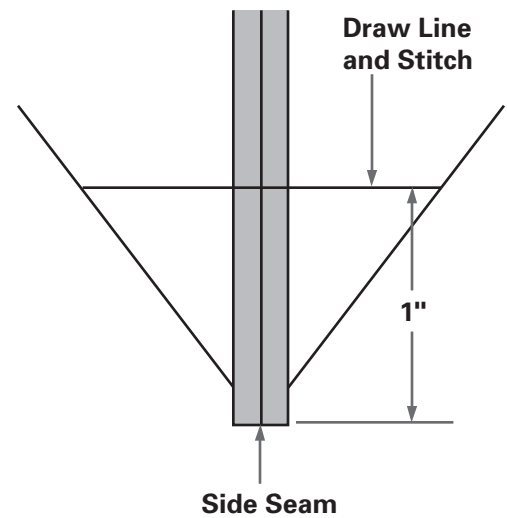

Fig. 6-4
7. To create box corners on the lower edge of the purse, flatten each lower corner and center the seam. Measure up 1 inch (2.5 cm) from the bottom of the seam and draw a line perpendicular to the seam. Stitch along the line, backstitching at the beginning and ending of the stitching line. Repeat for the lining. (Fig. 6-4)